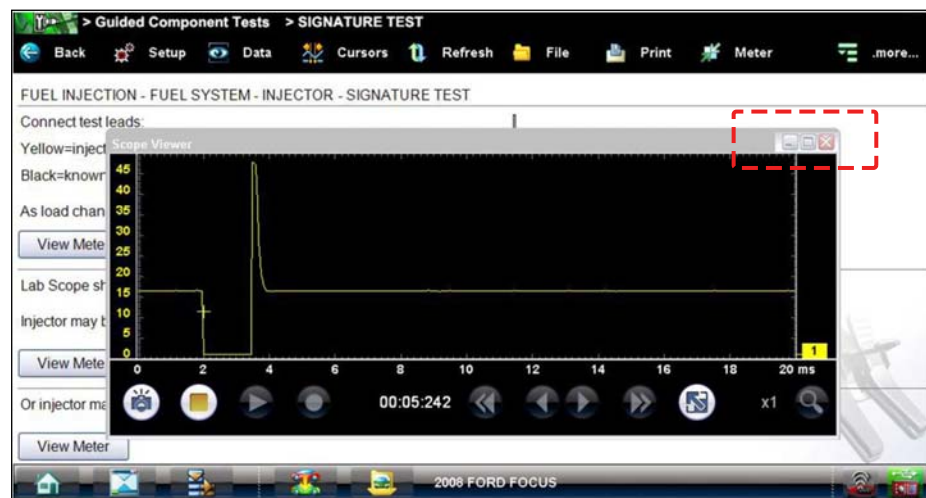

Figure 7-10 Sample meter view in a separate window
2. Select the **Meter** icon a second time and the meter opens as a separate window (Figure 7-10). This window can remain open if you switch to the Scanner function and can be accessed from the Windows taskbar at the bottom of the screen. You can also resize and reposition the meter window on the screen.